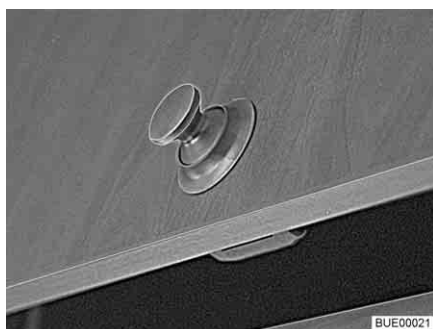
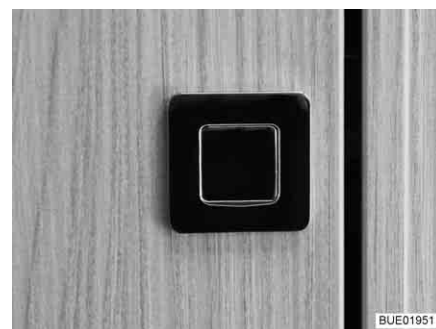

Fig. 55 Furniture flap with round push button
Fig. 56 Furniture flap with rectangular push button
- Press inner part of the lock. The push button (Fig. 55 or Fig. 56) jumps out.